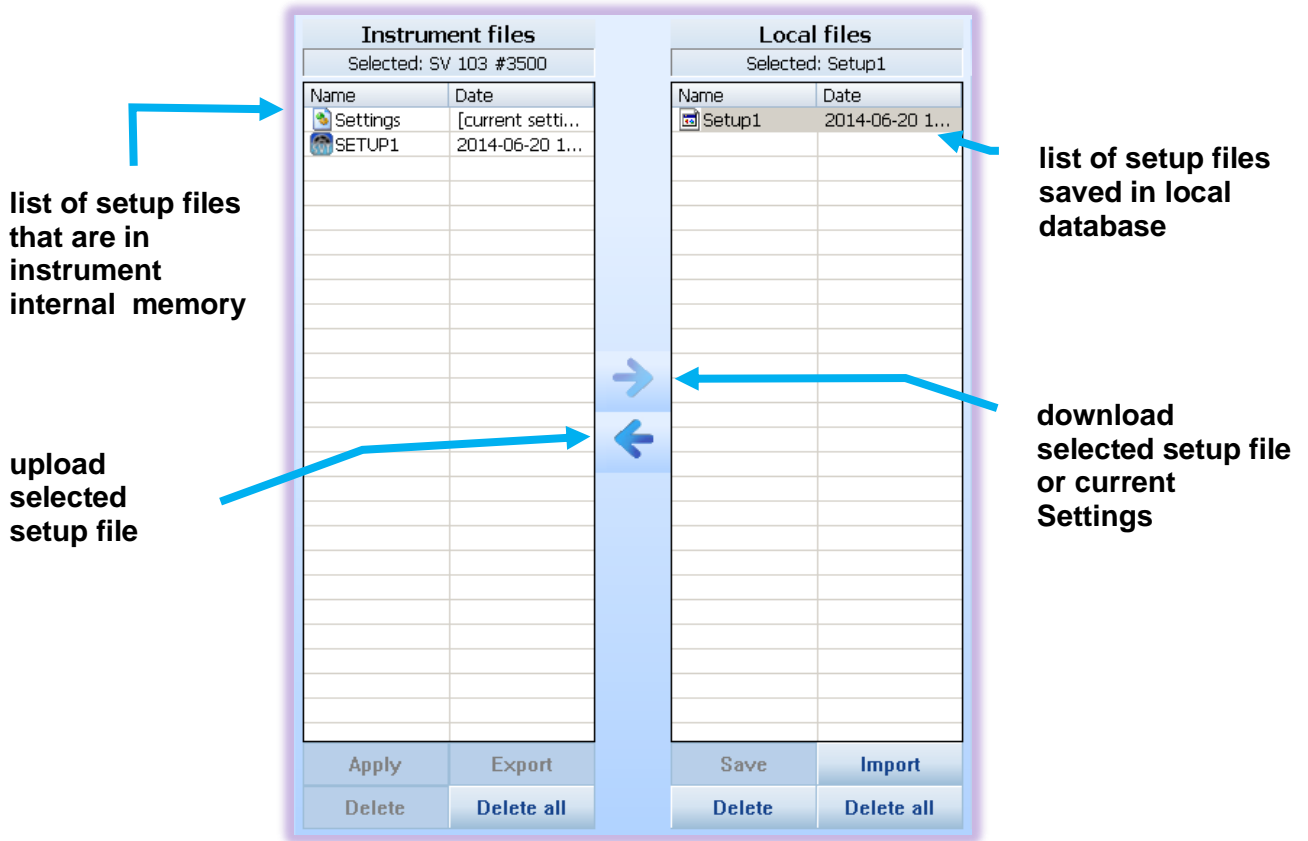

Figure 5-4 Setup files manager panel
1. Select the **"Settings"** row position in left side panel named **"Instrument files"** (Figure 5-4)
2. Click the right arrow pictogram to download instrument **"Settings"** configuration setup to **"Local files"** right side panel (Figure 5-4)
6. Once configured, come back to setups file manager (Figure 5-4) and click the just edited **“Settings”** in **“Local files”** panel
7. Next click the “save” button in bottom area of the panel (Figure 5-4)